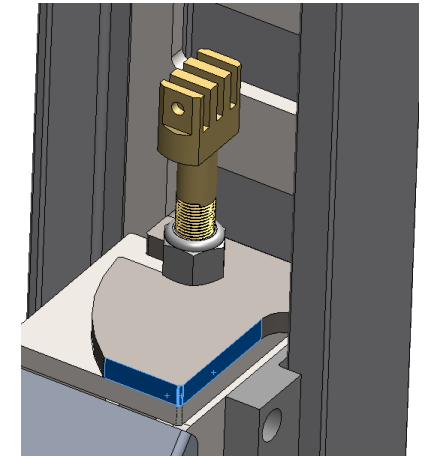

Figure 19
43. Test fit the lift side stop plate on the top plate of the front support side cross-beam by tilting the plate up inside the post and then sliding it down with the slot around the anchor as shown in *Figure 19*. Mark the outline of the lift side stop plate around the large radius edge and the slot, then remove the plate.
45. Re-install the lift side stop plate on the front lift side cross-beam. Place the stop plate so that the edges highlighted in *Figure 19* are flush with the existing top plate.